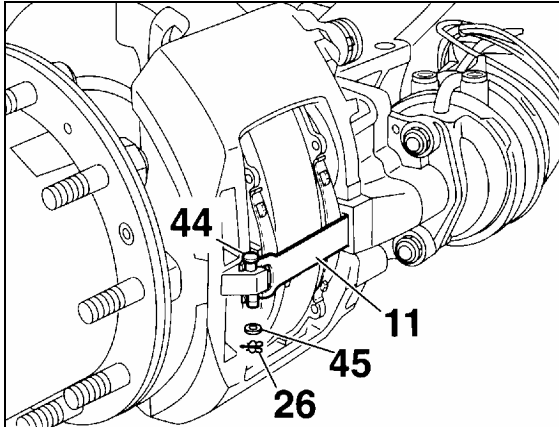

FIGURE 24: CLEARANCE INSPECTION 12119
Remove clip and washer (26 & 45, Fig. 24), push down retainer bar (11), pull out pin (44) and remove retainer bar. Push caliper toward actuator (center of vehicle) for maximum clearance.